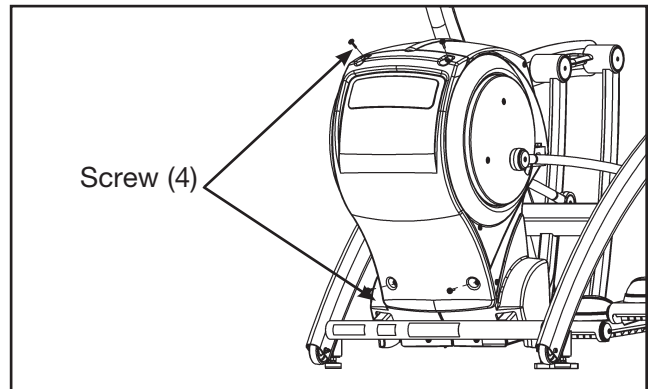

Figure 2
- A. Turn the main power switch to the off (0) position and unplug the power cord from the power outlet.
- A. Using a Phillips head screwdriver, remove the four screws and four washers securing the access cover. See Figure 2.
- A. While being sure not to pinch any cables, hold the access cover in place. See Figure 2.
- B. Using a Phillips head screwdriver, tighten the four screws and washers securing the access cover. See Figure 2.